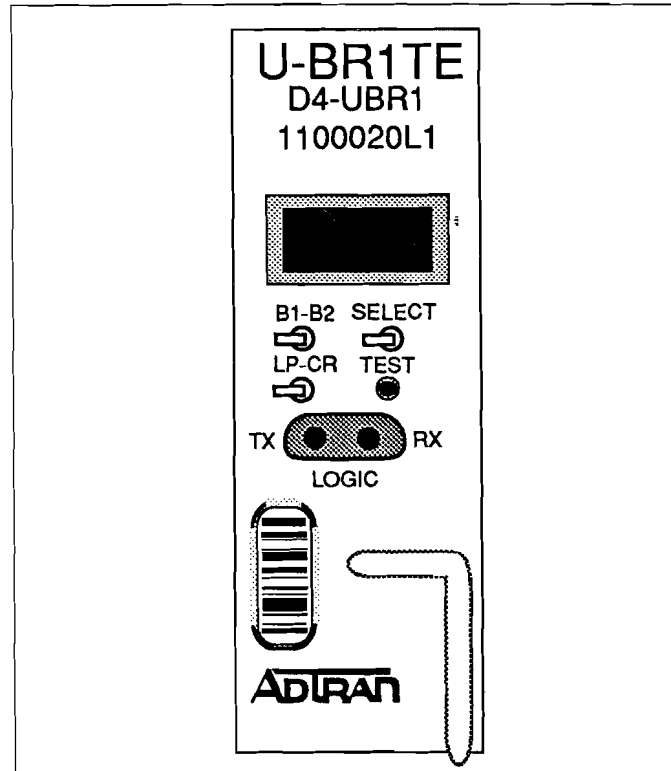
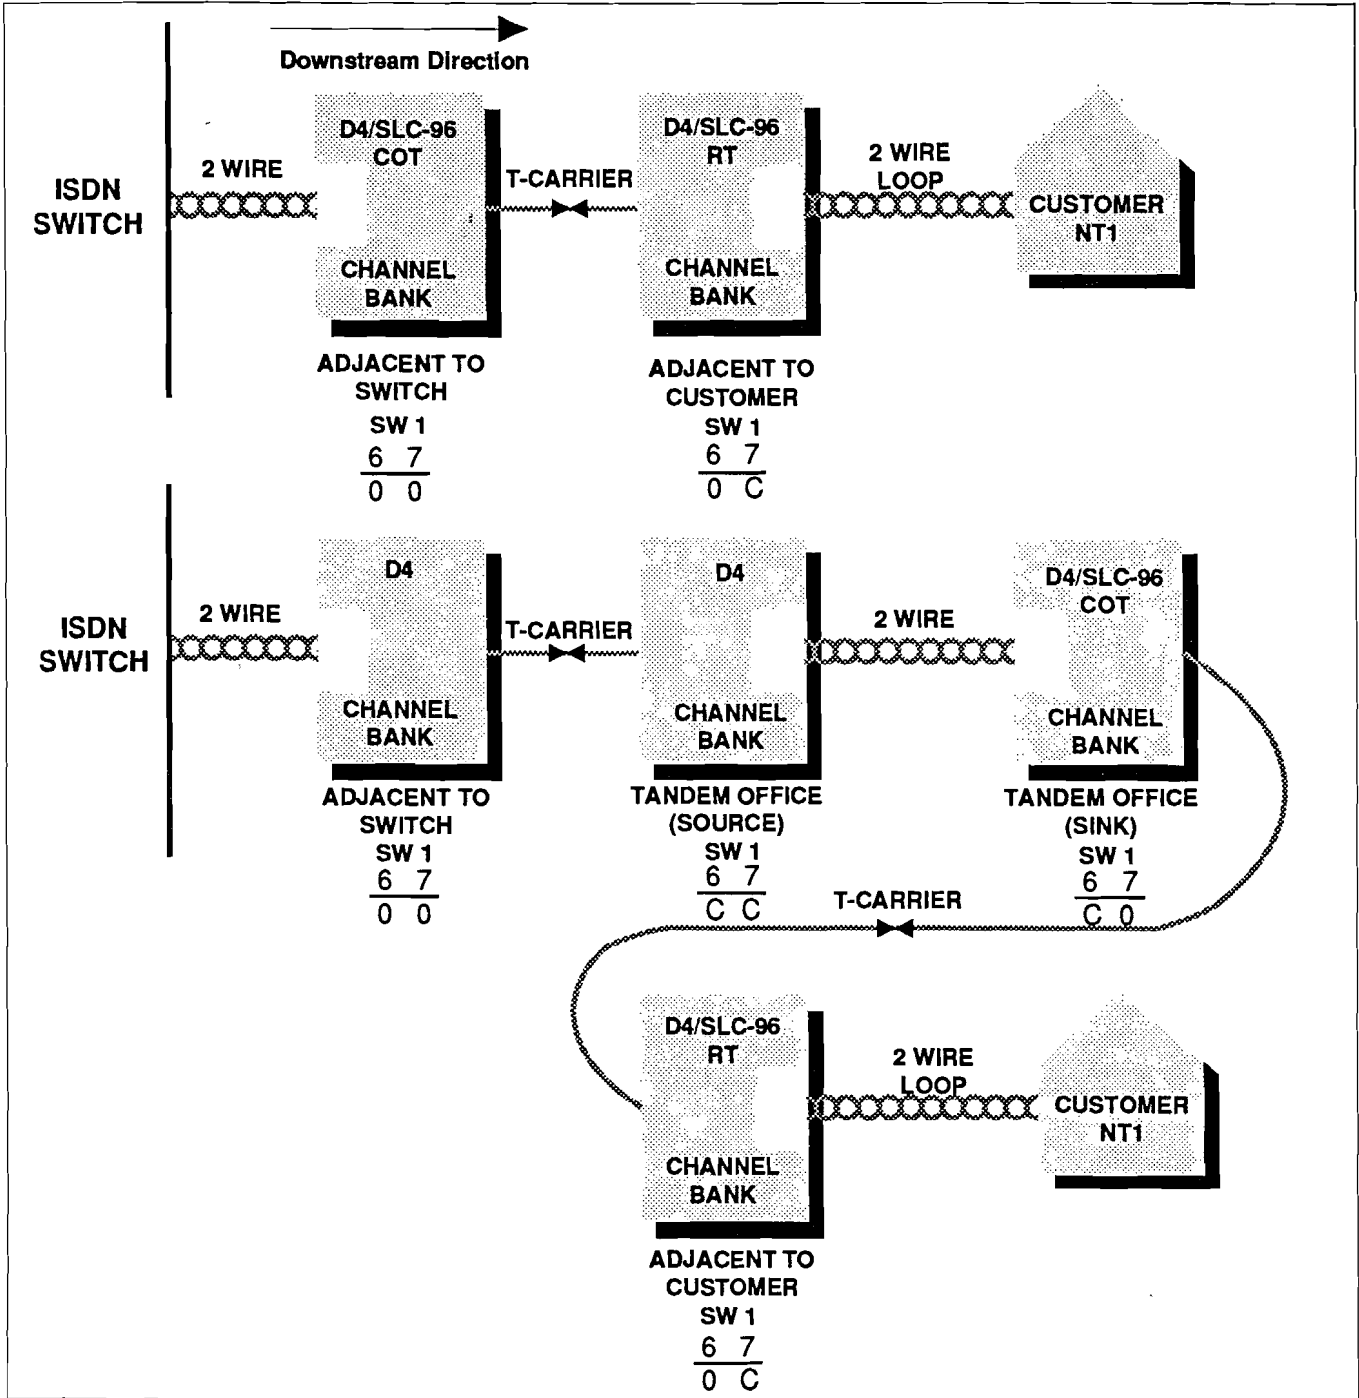

FIGURE 5. U-BR1TE Faceplate
FIGURE 6. Position Switch Settings at Network Locations
Switch 6 and Switch 7: Determine where the U-BR1TE is to operate. The four possible network positions are listed below (also, see Figure 6).
2.06 Figure 5 is an illustration of the ADTRAN U-BR1TE faceplate. The B1-B2 switch determines which bearer channel (B1 or B2) is to be looped back. If only one bearer channel has been selected, the switch must select the configured channel. The LP-CR (Loop Carrier) switch determines the direction of the loopback. Loopback addresses may only be selected in a downstream direction from the ISDN switch (see Figure 6). The SELECT button is used to determine the loopback location or specific tests as indicated on the four-character LED display. See Table C for a list of the possible options using the SELECT button. The TEST button, which activates U-BR1TE test features, is recessed to prevent inadvertent operation.